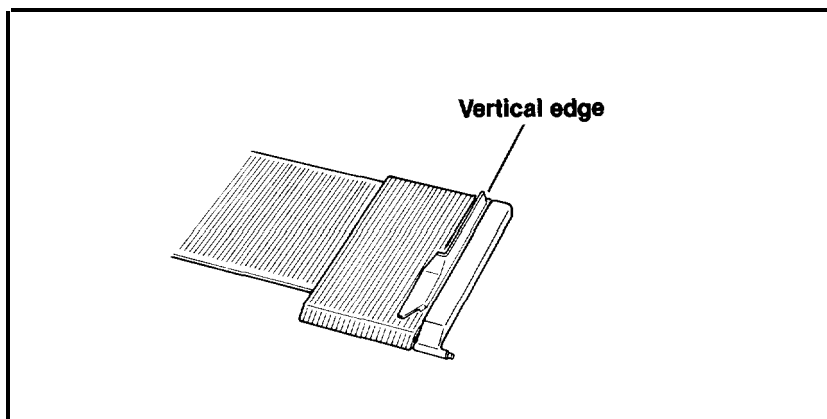

Figure 1-11. Paper guide position
4. To install the other paper guide, just repeat the steps above. Be sure to attach the second sliding guide with the vertical standing edge facing out toward the end of the sheet guide and away from the center (see Figure 1-11).